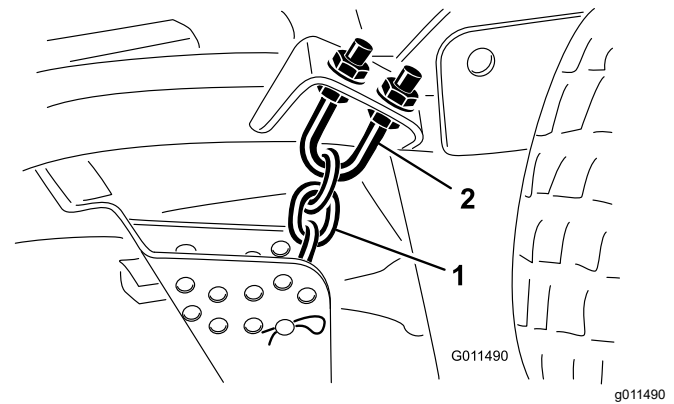

Figure 83
1. Loosen the jam nuts at the top or bottom of the height-of-cut chain U-bolt (Figure 83).